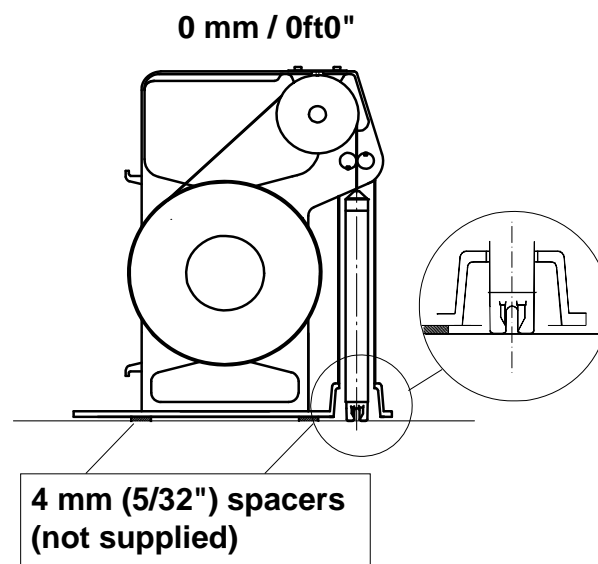

Figure 8-12
- gently lower the tape until the sensor gets in contact with the surface (Figure 8-12);